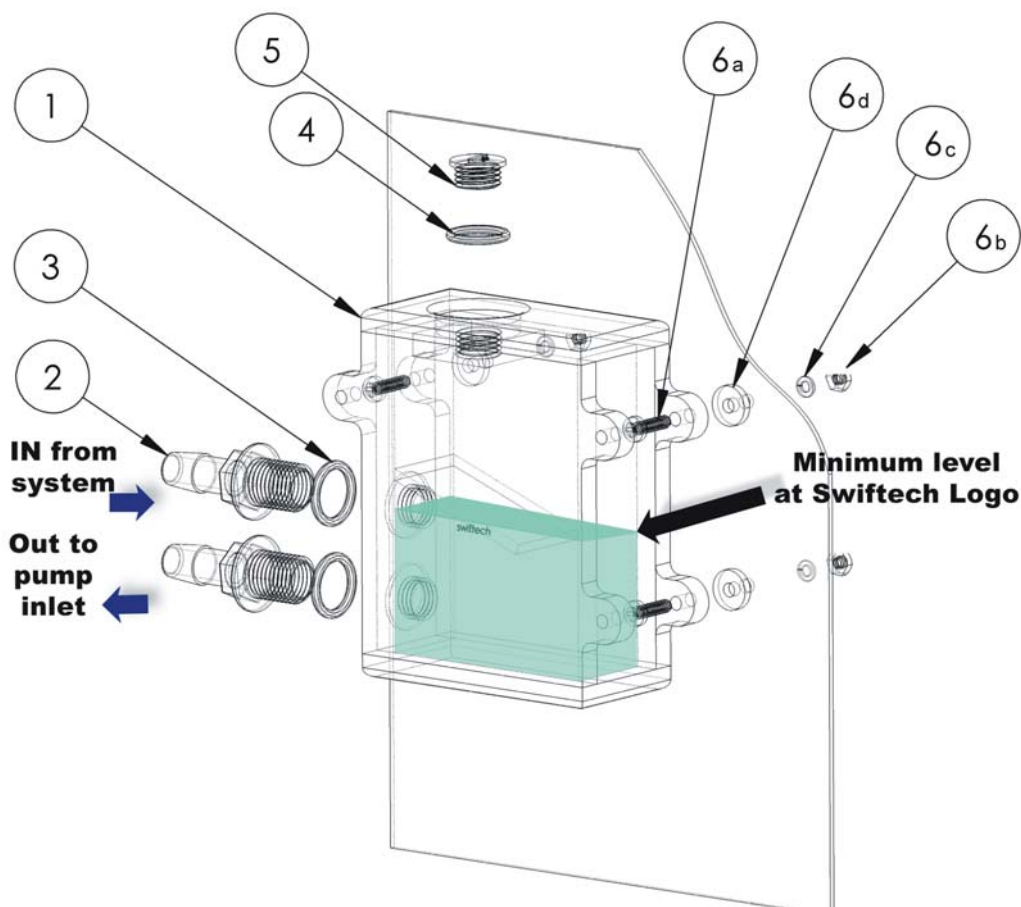

Figure 1
- ❑ Upper port: "In from system" shown in figure 1 is the return line from the system
- ❑ Lower port: "Out to pump inlet" shown in figure 1 should be connected to the pump inlet.
- ❑ Permanent mount with the provided mounting hardware as shown in figure 1 page 1, and various examples on page 3.